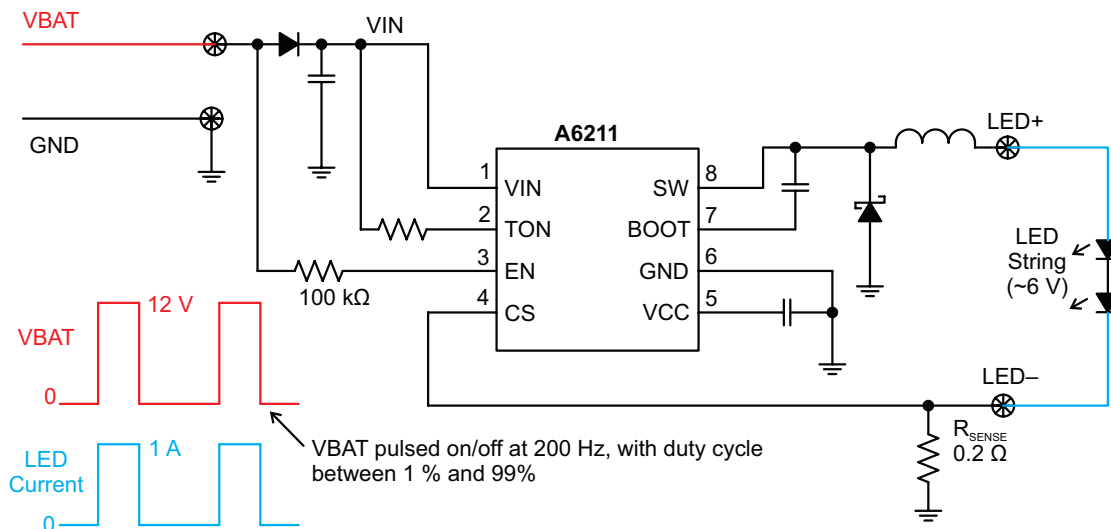

Figure 16: PWM Dimming of LED Current by Using Pulsed Power Supply Line
- Figure 16 shows PWM dimming of LED current by pulsing